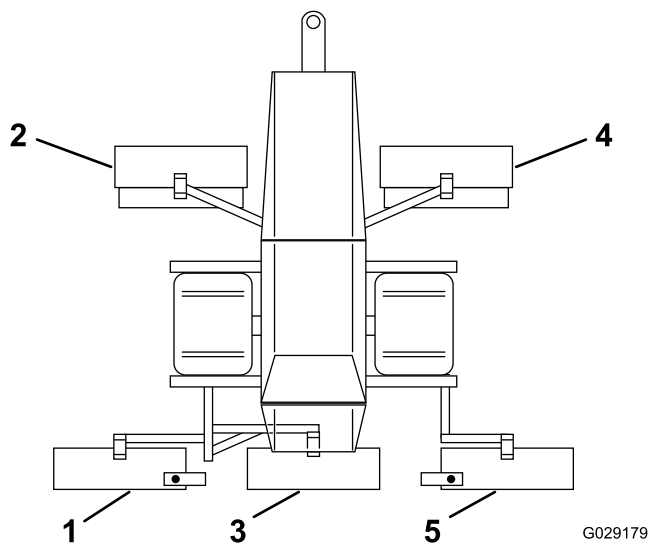

Figure 2
5. Lay out the cutting units around the machine in the correct positions as shown in Figure 2.